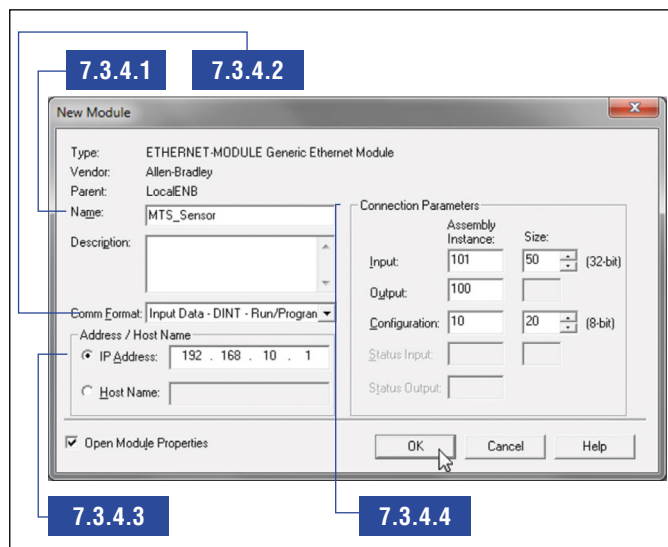

Fig. 44: New Module window
**7.3.4** In the 'New Module' window (Fig. 44) perform step 7.3.4.1 – 7.3.4.4 to configure the new generic ethernet module to the R-Series EtherNet/IP™ sensor.